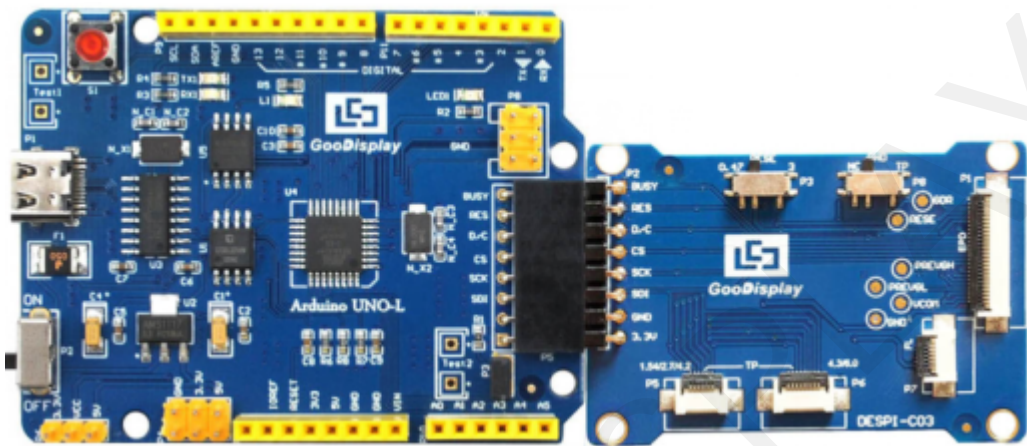

Figure 3 : Connection between Arduino UNO-L for EPD and DESPI-C03
1) Connect DESPI-C03 to Arduino UNO for EPD as shown in Figure 3. Connect e-paper FPC to DESPI-C03 as shown in Figure 4. (Pay attention to the direction of the e-paper display.)